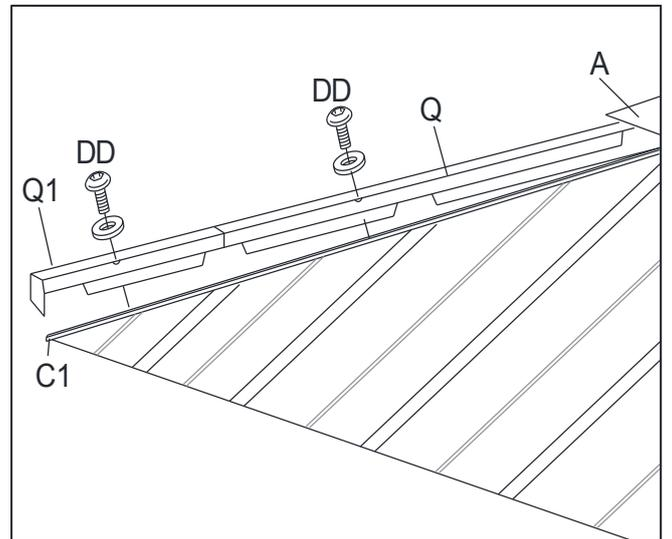

Fig.13.2
13. Put Top Panel Cover (Q) on the top of Long Top Bar (C) and then insert Top Panel Cover (Q) into the gap between Upper Central Connector (A) and Long Top Bar (C). Then attach Top Panel Cover(Q) to Long Top Bar (C/C1) with Bolt (DD). See Fig.13 (Fig.13.1—Fig.13.2).